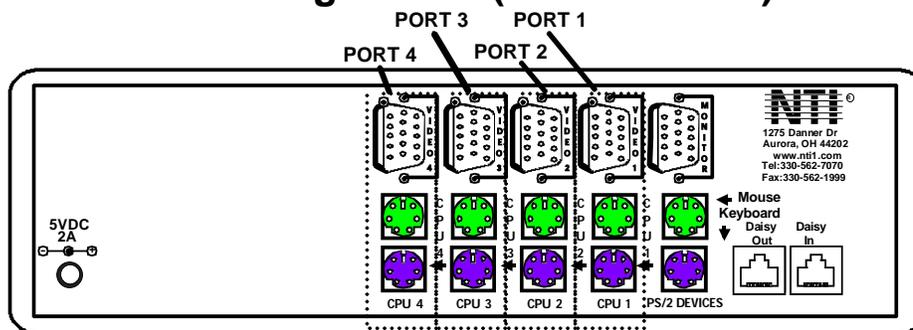

Figure 8- Connections grouped by port number
**NOTE:** The “port” mentioned in the “Command Functions” above refers to the combination of the video (VIDEO x), mouse and keyboard (CPU x) of like numbers that a CPU is connected to (i.e. the CPU that is connected to VIDEO 1 and CPU 1 will be identified as Port 1 or P01). (See Fig. 8 on page 9.)